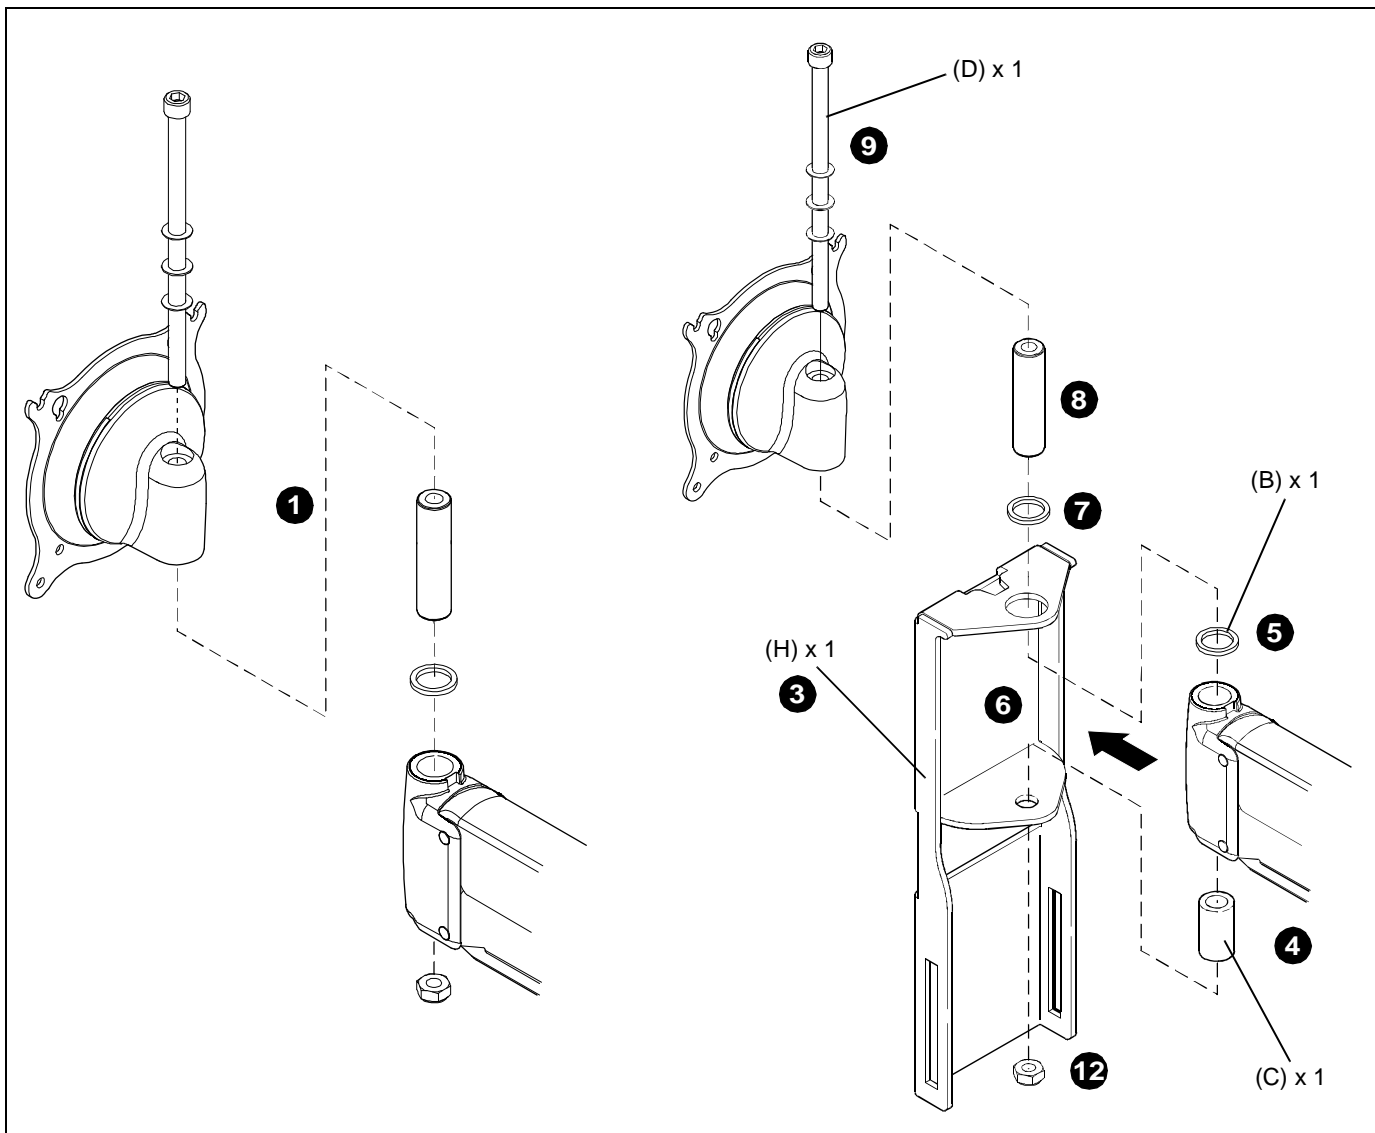

Figure 1
3. Orient vertical tray mounting bracket as show in figure below. (See Figure 1)
4. Slide spacer (C) into bottom of height adjustable arm.
5. Place UHM washer (B) on upper area of height adjustable arm.
6. Slide height adjustable arm with spacer and UHM washer (B) in between mounting tabs in vertical tray mounting bracket (H) until mounting holes in arm and bracket align. (See Figure 1)
7. Place UHM washer, removed during step 1, over mounting hole in upper mounting tab of vertical tray mounting bracket (H).
8. Slide spacer, removed during step 1, down through UHM washer and mounting hole in vertical tray mounting bracket (H) and into height adjustable arm. (See Figure 1)
9. Place two flat washers and one Nylon washer, removed during step 1, onto socket head screw (J) provided with tray accessory. (See Figure 1)
10. Align mounting hole in Centris head assembly with mounting hole in vertical tray mounting bracket (H).
11. Slide socket head screw (J) with washers down through Centris head assembly and height adjustable arm.
12. Hold hex nut, removed during step 1, in bottom of height adjustable arm and secure Centris head assembly and vertical tray mounting bracket (H) to height adjustable arm by tightening socket head screw (J) using 1/4" hex wrench.